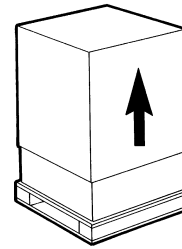

FIGURE 1
1. Remove the equipment from the packing, then slide it off upwards (see FIGURE 1).